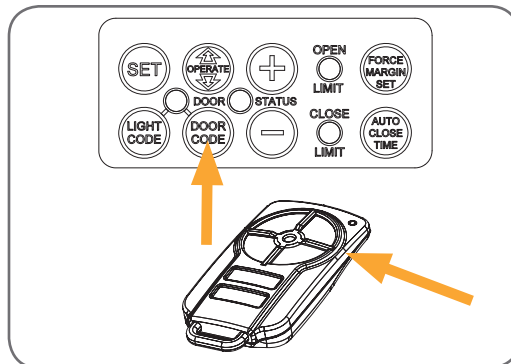

fig 33
- Briefly press the DOOR CODE button once, then press it again and hold (will beep two times on second press (Fig. 33).
- Press one of the four (4) buttons on the transmitter for two (2) seconds, pause for two (2) seconds, then press the same button again for two (2) seconds.
- Press and hold the transmitter button for six (6) seconds to set Vacation Mode. The door code LED will stay lit while Vacation Mode is active.